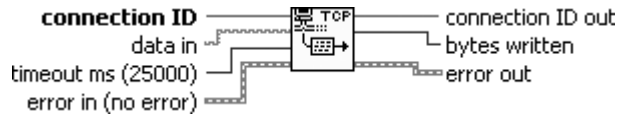

Figure 16.55
2. Write (or read, in other cases) data. Data is always passed as a string type (see Figure 16.55).